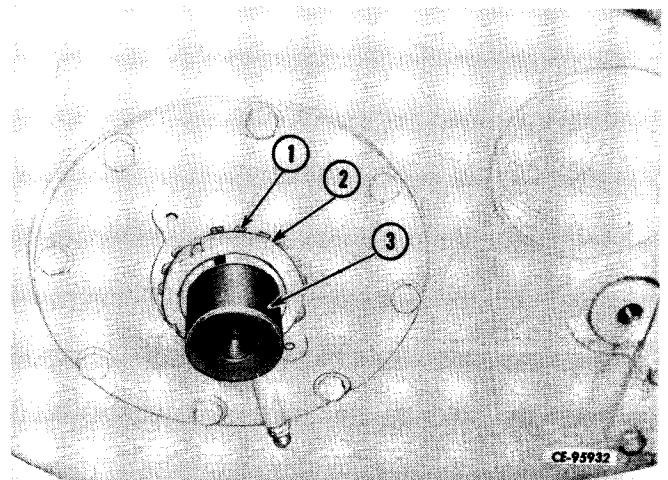

Figure 14-13
Unlock lock washer (1, Fig. 14-13) and using a spanner wrench, remove spanner nut (2) from end of drum shaft (3).